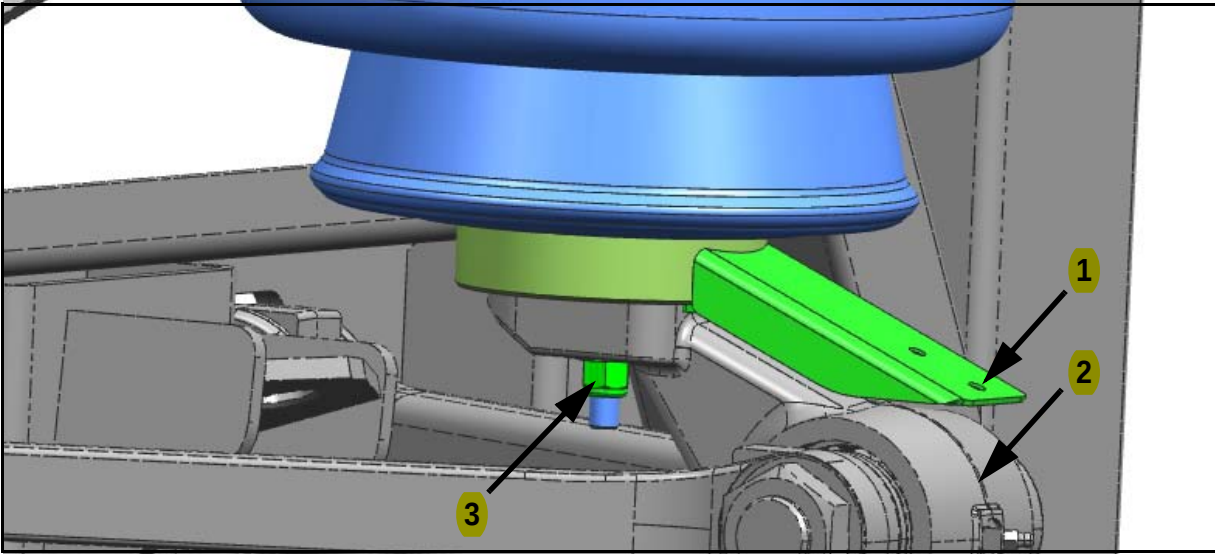
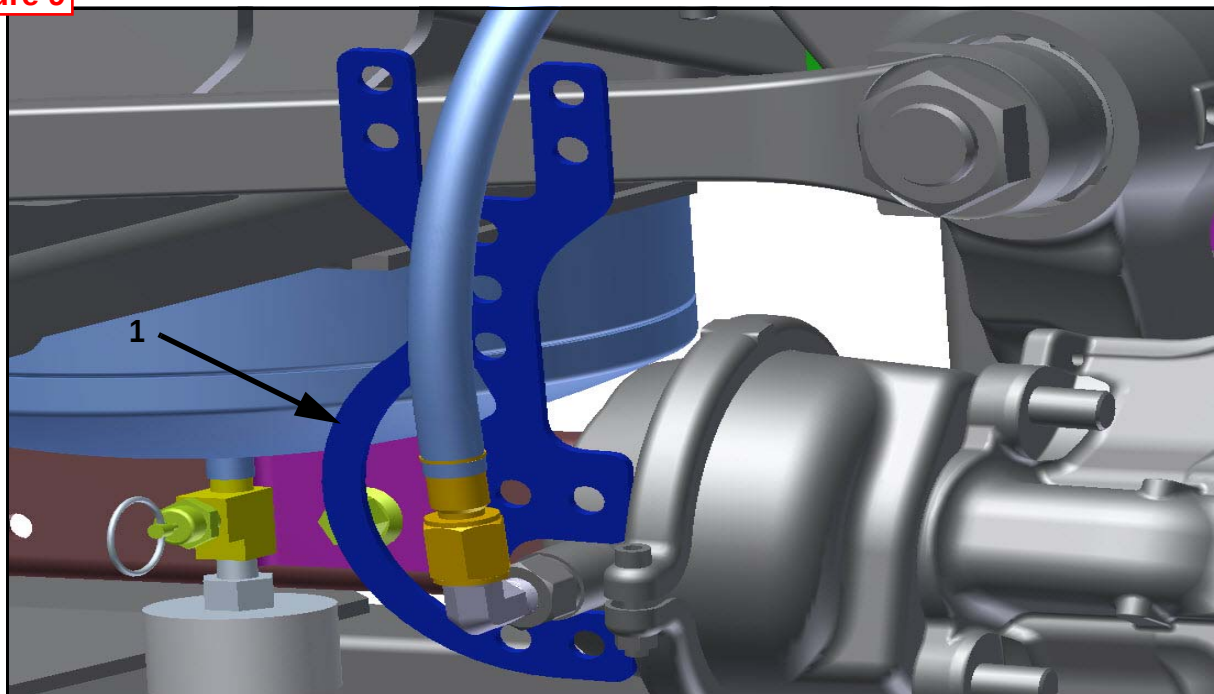
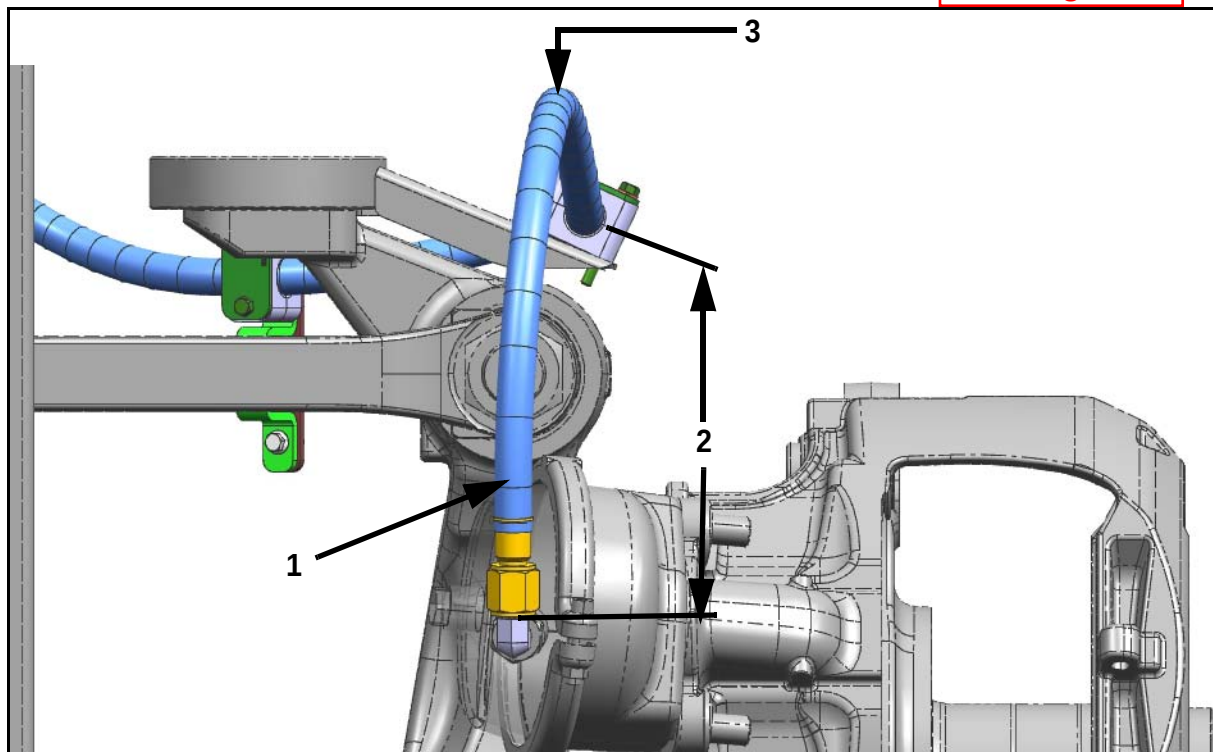
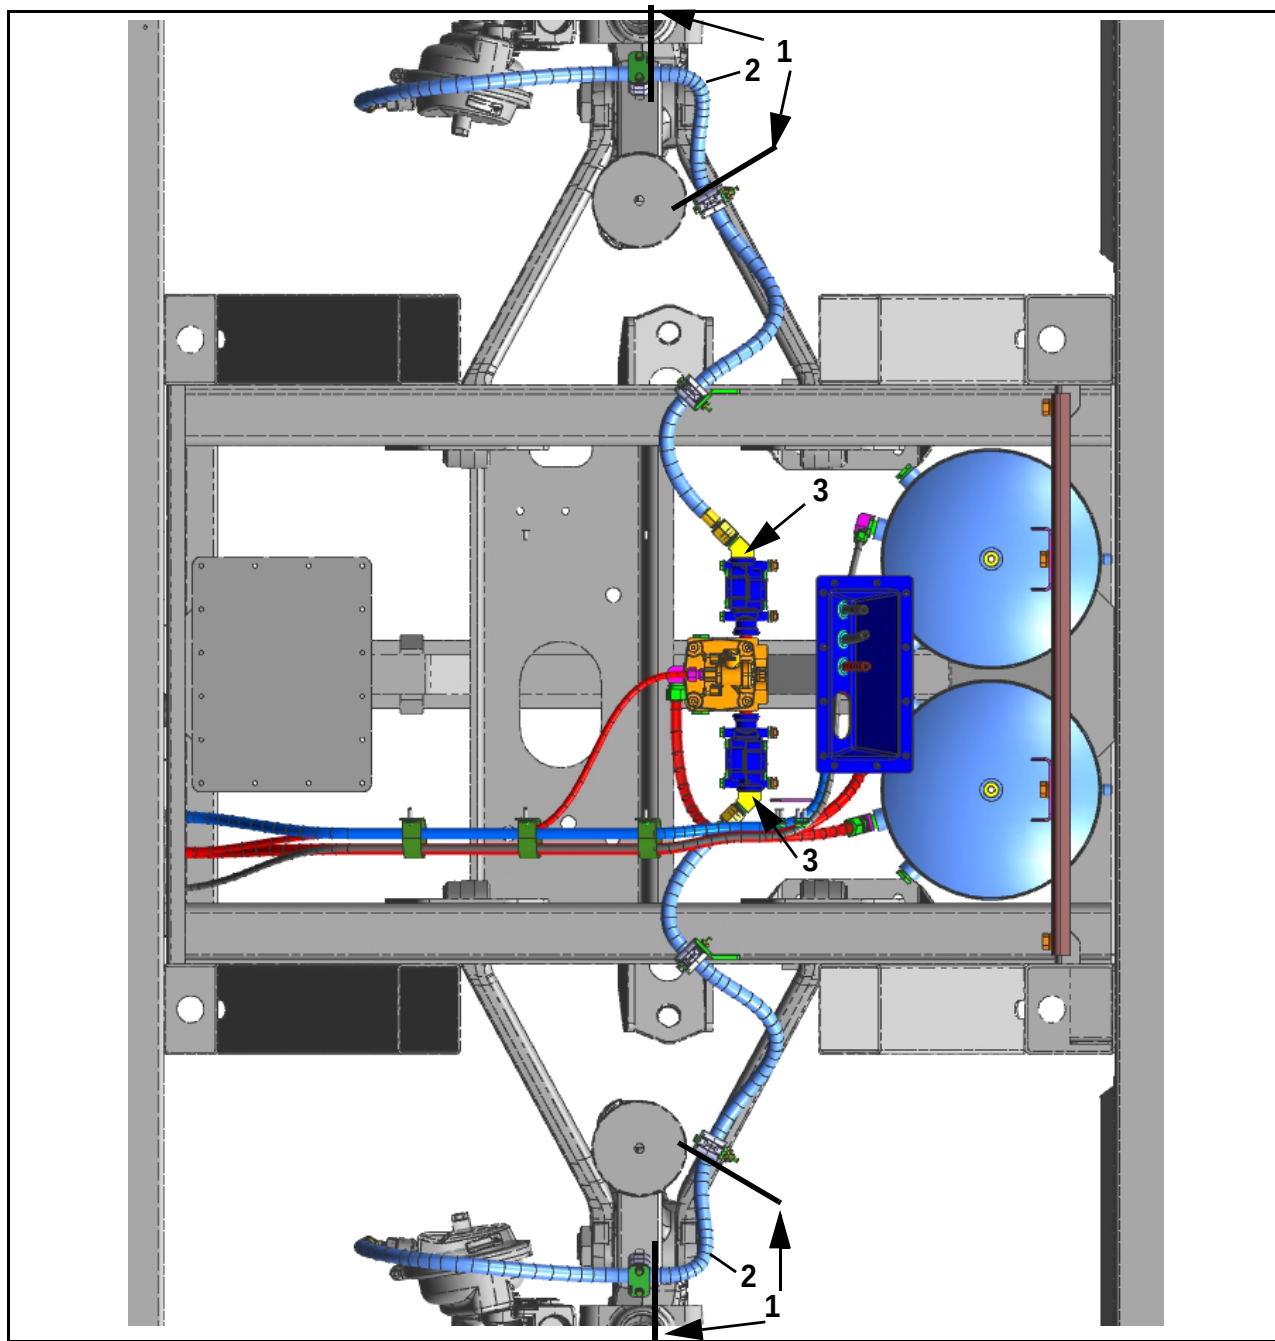

Figure 9.
Figure 10. Front brake line gauge location.
Figure 11. **was - Figure 10**
Figure 12. ← was - Figure 11
15. Using a square or straight edge, ensure that the geometry of the first brake hose clamp is parallel to the center of the kingpin (refer to Figures 9 and 11)
If adjustment is required, loosen (do not remove nut from stud) the nylock nut on the airspring assembly and orient to achieve the brake hose clamp parallel to the center of the kingpin (refer to Figure 9). Torque nylock nut to 40-50 ft-lbs.
Item	Figure 9 Description
- was - 16** 17. Orient and connect the new front brake hose assembly to the 90 degree fitting on the front brake chamber as shown in **Figure 10**. **was - Figure 9**
- was - 17** 18. Starting at the front brake chamber, route the front brake hose assembly to the first brake hose bracket (refer to **Figure 11**). Using the existing mounting hardware, mount (fingertight) the clamp assembly to the brake hose bracket. **was - Figure 10** **was - 29796**
- was - 18** 19. Orient the front brake line gauge, p/n 20-04-0028, against the front brake chamber clamp as shown in **Figure 10**. Center the hose routing with the upper opening of the front brake line gauge and tighten the swivel nut to secure in position, ensuring that there is no twist or flex at any point throughout the routing. Torque nut to 56-60 ft-lbs.
was - Figure 9
was Figure 9
Item	Figure 10 Description
was - 19 20. Using a measuring tape, ensure that the front brake hose length is the 22.00 inches between the bottom of the swivel fitting to the inside face of the clamp as shown in **Figure 11**. Tighten clamp to secure in position.
was - Figure 10
Item	Figure 11 Description
was - 21 22. Using a measuring tape, ensure that the front brake hose assembly routing length is the 8.00 to 8.25 inches of hose length from face to face of the clamps while maintaining a minimum bend radius of 2.25 inches as shown in Figure 12. **was - Figure 11**
Item	Figure 12 Description
- was - 25** 26. Using two (2) wrenches, remove and discard the straight fitting from the front brake module. Apply a pair of drops of sealant to the NPT threads of the 45 degree fitting, p/n 19-10-1956. Install the 45 degree fitting, fingertight, in the front brake module as shown in **Figure 12**. Using two (2) wrenches, tighten the fitting 2.50 turns. Tighten fitting to orientation shown in **Figure 12**.
was - Figure 11